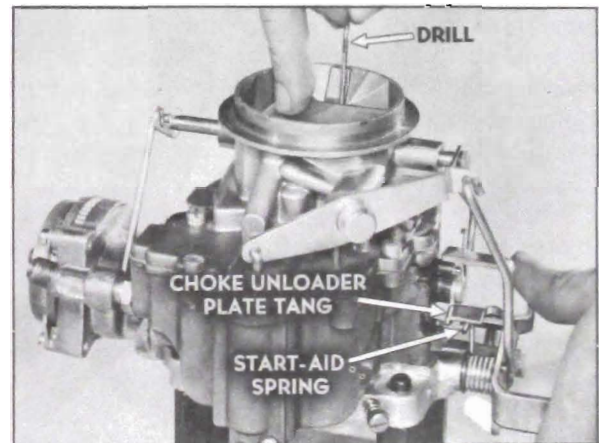
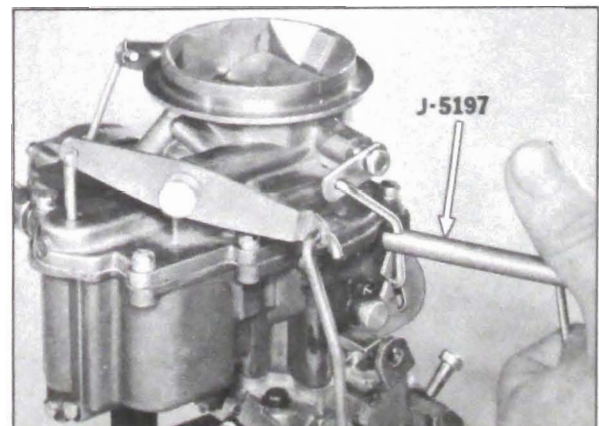

Figure 3-66—Checking Start Aid Adjustment
Figure 3-67—Adjusting Start Aid
7. Reinstall throttle stop screw and spring. Hold choke valve closed on a No. 53 drill. As throttle valve is opened, start aid spring should just clear tang on choke unloader plate. See figure 3-66. Bend unloader link to obtain proper setting using Tool J-5197. See figure 3-67.